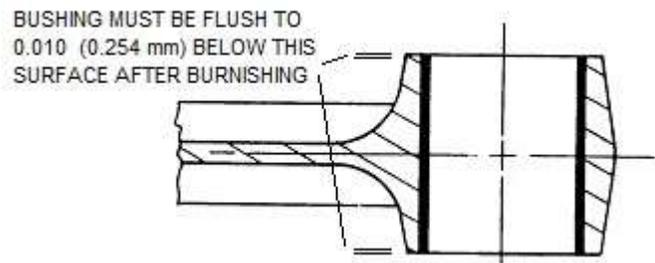

Figure 37
- H. Examine the bushing after burnishing to make sure the bushing is flush to 0.010 in. (0.254 mm) below the connecting rod surface (Figure 37) on both sides of the connecting rod.